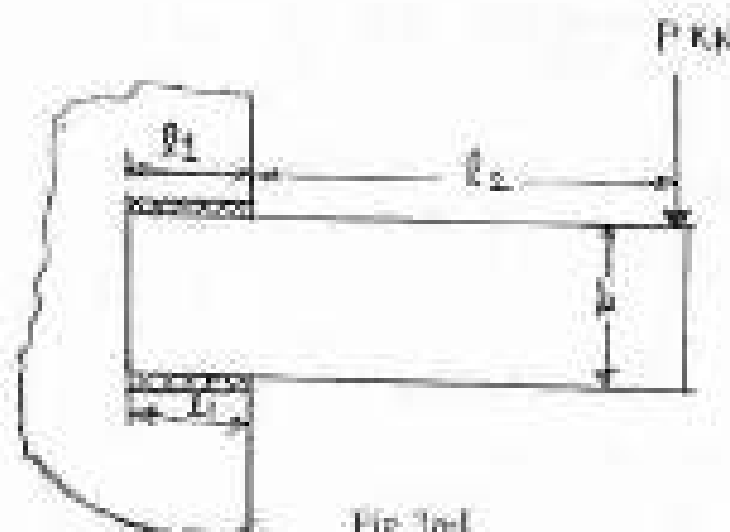

Fig. 3a-l
- Q3) a) Explain the design procedure of eccentrically loaded welded joint subjected to primary shear stress due to direct load and secondary shear stress due to turning moment as shown in Fig. 3a-l. [6]